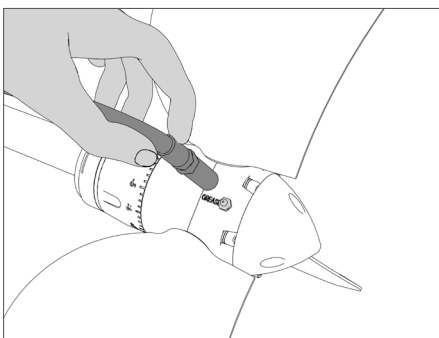

FIG. 44 | Grease tube connection
- Fit the nozzle of the grease tube onto the grease nipple (**Fig. 44**).